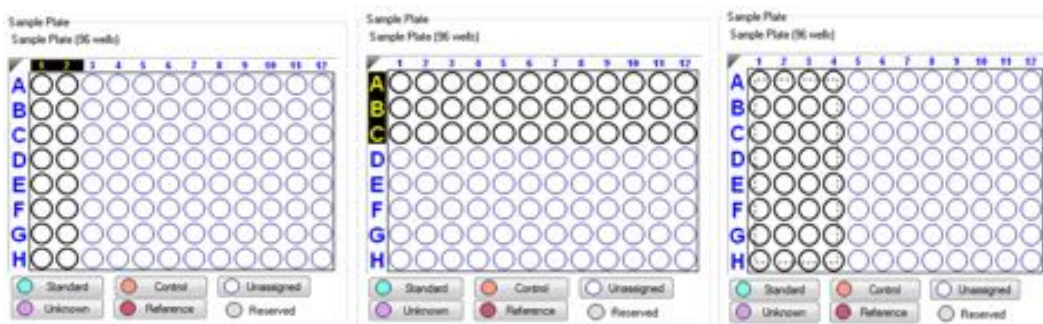

Figure 8-2: Selecting Wells in the Sample Plate Map
- Click a column header or select adjacent column headers by click-hold-drag. To select non-adjacent columns, hold the **Ctrl** key and click the column header (Figure 8-2 left).
- Click a row header or select adjacent row headers by click-hold-drag (Figure 8-2, center).
- Click a well or draw a box around a group of wells (Figure 8-2, right).